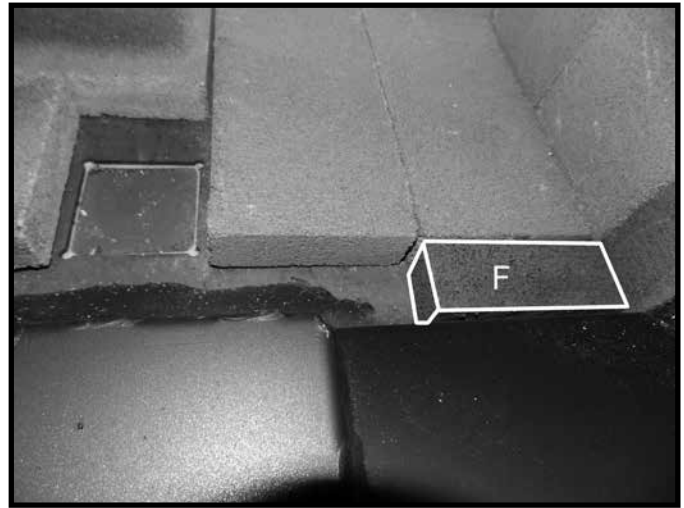
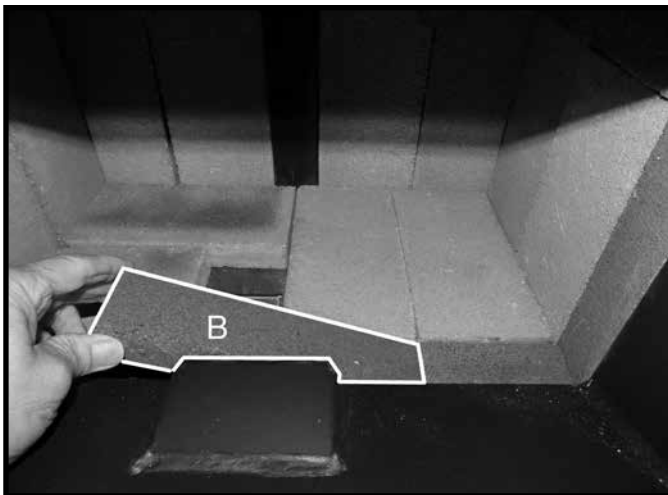
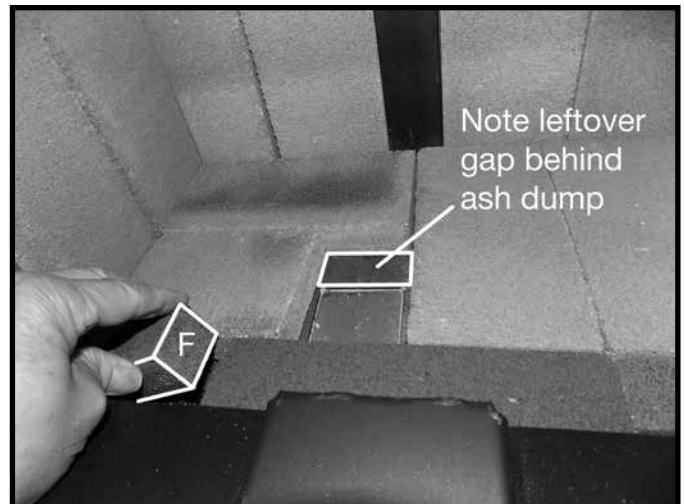

Figure 23: Short, narrow brick installed in front row.
Figure 24: Long narrow center brick in front row.
Figure 25: Final short narrow brick in front row.
7. Place a short narrow "F" brick against the front right side of the floor (Figure 23) followed by a longer "B" brick in the center of the front row (Figure 24). Finish with the last "F" brick placed against the left side front row (Figure 25). Note: There will be a leftover gap behind the ash dump.